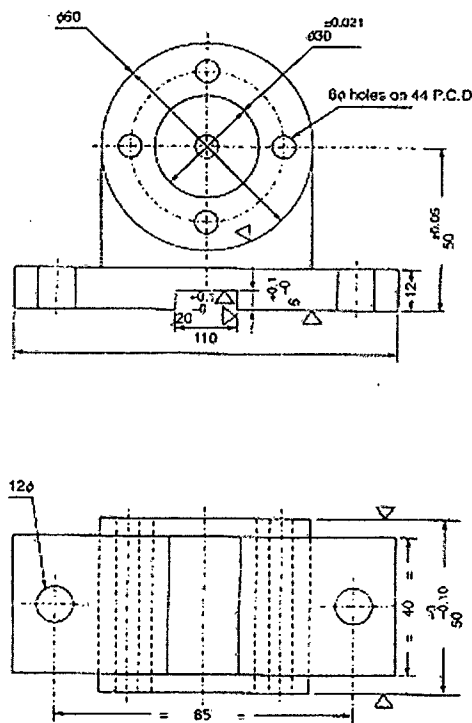

Fig.13.a
13. a) Design a Milling fixture for finish machining the 20 mm slot marked ∇ in the component shown in Fig. 13.a
- i) Give a neat operation chart. (2)
- ii) Draw two views of the Fixture. (12)
- iii) Specify appropriate fits and tolerances for critical parts. (3)
- iv) Dimension the views and give a neat parts list. (3)
13. b) Design a Turning Fixture for use when boring the $\phi 30$ hole in the component shown in Fig. 13.a.
- iv) Dimension the views and give a neat parts list (3)